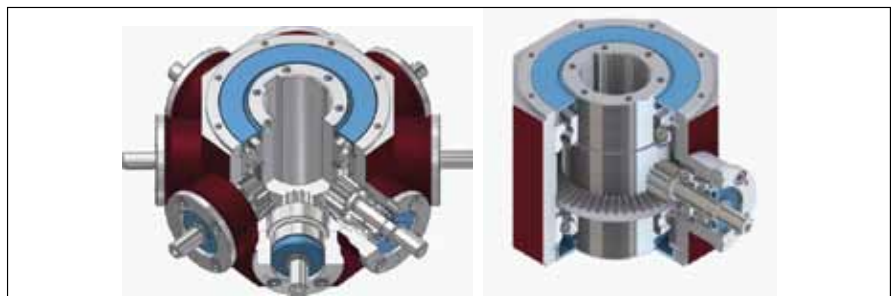

Figure 11—Octodrive gearbox (sectional view) in different configurations.
- Compact, flat gearbox for 90° transmissions with ratios 1:5 to 1:10 (Fig. 11)